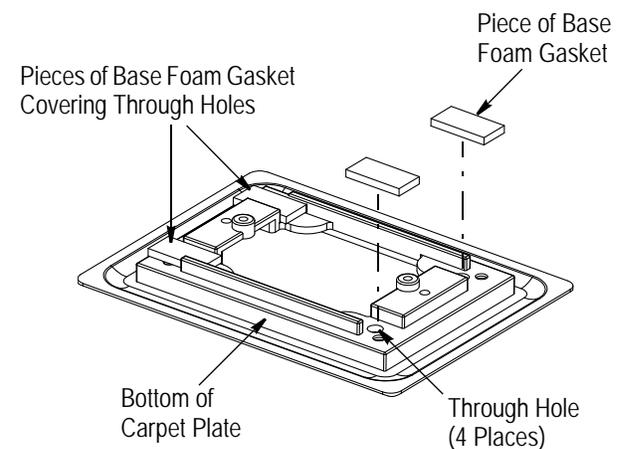

Figure 12
3. Cut four 25.4-mm [1-in.] (approximately) long pieces from the remaining base foam gasket. Remove the adhesive backing from the four pieces of foam gasket, and adhere them to the bottom of the carpet plate so that the four through holes are covered. See Figure 12.